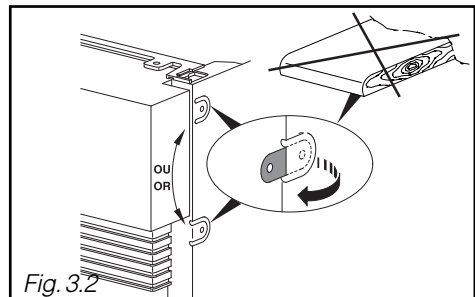
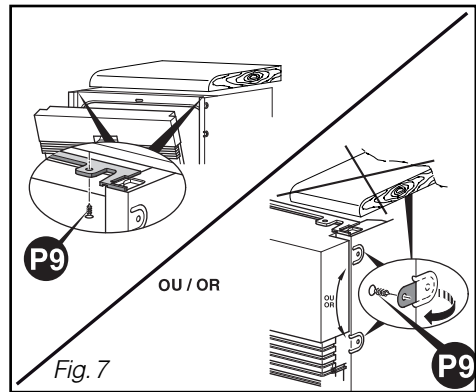

Fig. 3.2
Fig. 7
*If the worktop is in marble or a similar material, you must fix your dishwasher using the side screws; before inserting it into the niche, you must therefore unfold a flange on each side of the side panels (Fig. 3.2).*
Fasten the dishwasher under the worktop with the screws **P9** (see Fig. 7) or using the flanges you have unfolded (Fig. 3.2).